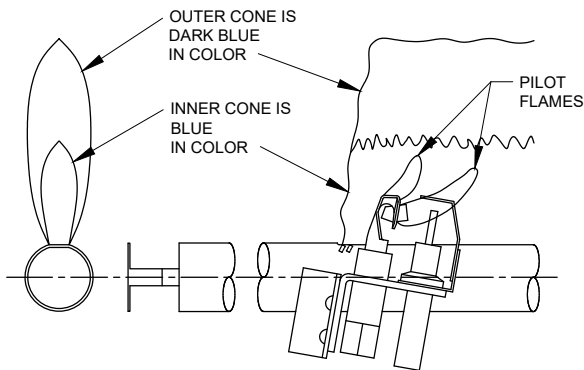

Figure 8.1: Pilot and Burner Flames
- c. Adjust the Main Gas Pressure Regulator to obtain 3.5 inches water column on Natural Gas or 10 inches water column on Propane (LP) Gas.
7. Check the main burner and pilot flames (see Figure 8.1). The flame inner cone should be about 1-1/2" high and should have a very sharp blue color. Poor flame conditions can be caused by dirty burners, obstructed orifices or incorrect gas pressure.